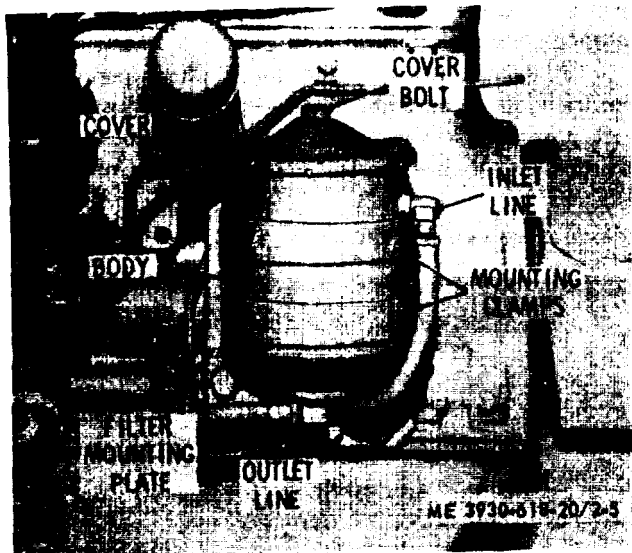

Figure 2-5. Engine oil filter, installed view.
a. Removal. Refer to figure 2-5 and remove as follows:
(1) Disconnect the oil outlet line at the bottom of the filter body and drain the oil from the filter body into a suitable container.
(2) Disconnect the oil inlet line and disconnect the electrical wire from the oil pressure sending unit.
(3) Loosen the clamp bolts and lift the assembly out of the clamps.